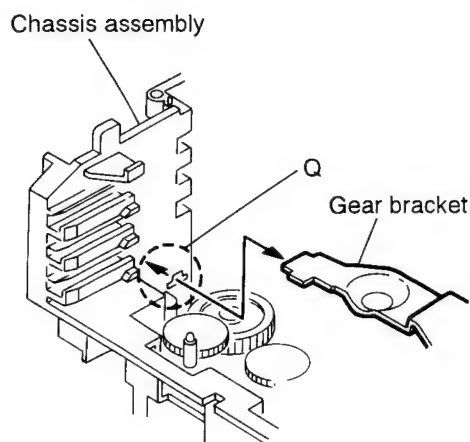

Fig. 5-41
3. From the notch (Q section) on the chassis assembly fixing the edge of gear bracket, remove and take out the gear bracket (See Fig. 5-41).